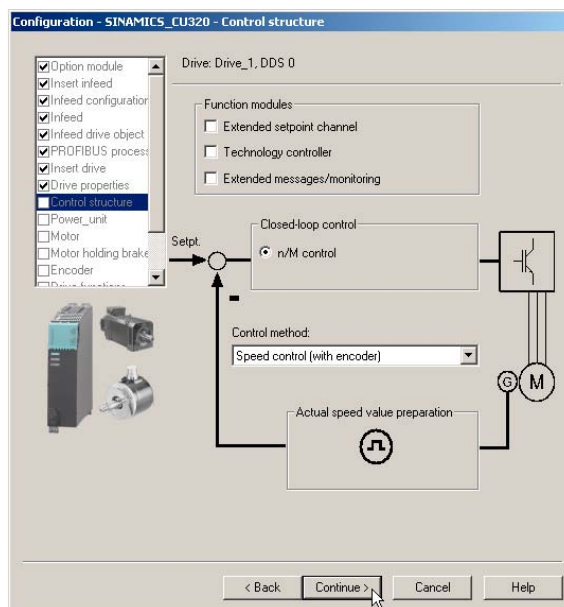

Fig. 3-23 Control structure
13. Choose the “Control method” as shown in Fig. 3-23 (the default setting can be left as it is) and click **Continue** >.